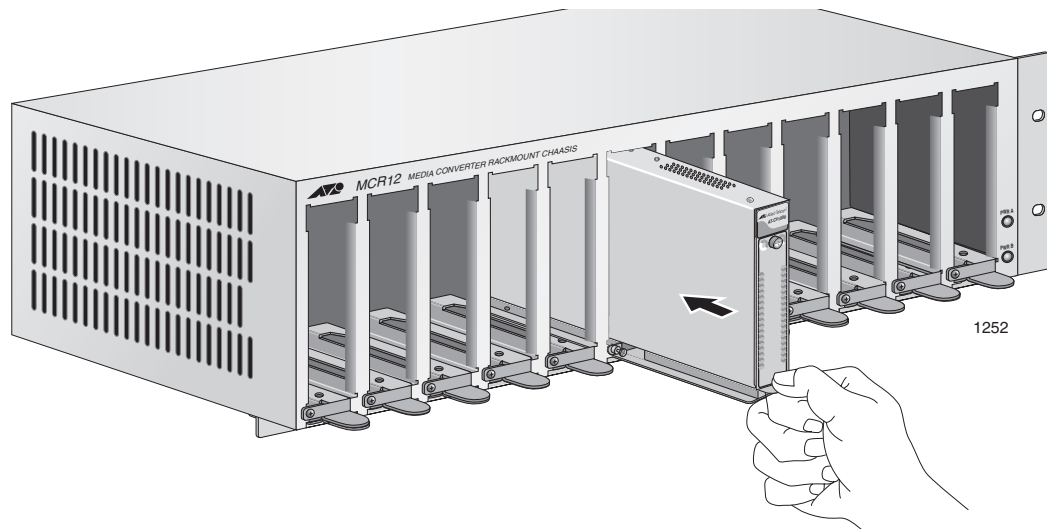

Figure 14. Sliding the AT-CV1000 into the AT-MCR12 Chassis Slot
5. Use the thumb tab on the adapter to slide the AT-CV1000 chassis into the AT-MCR12 chassis, as shown in Figure 14.